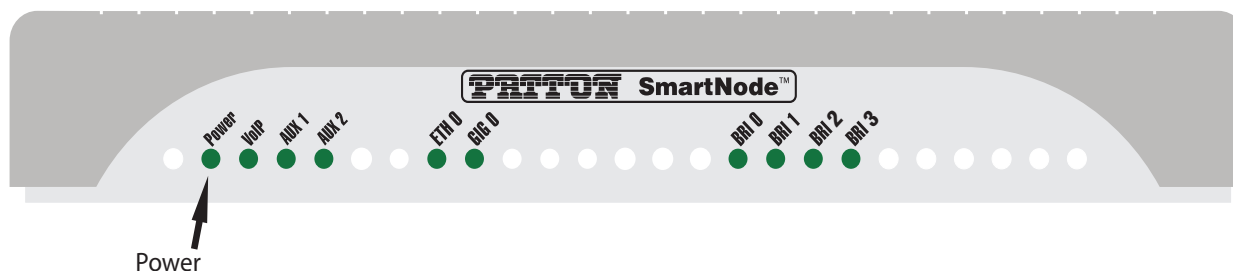

Figure 6. Power LED (SmartNode 4130 shown)
4. Verify that the green *Power* LED is lit (see figure 6).